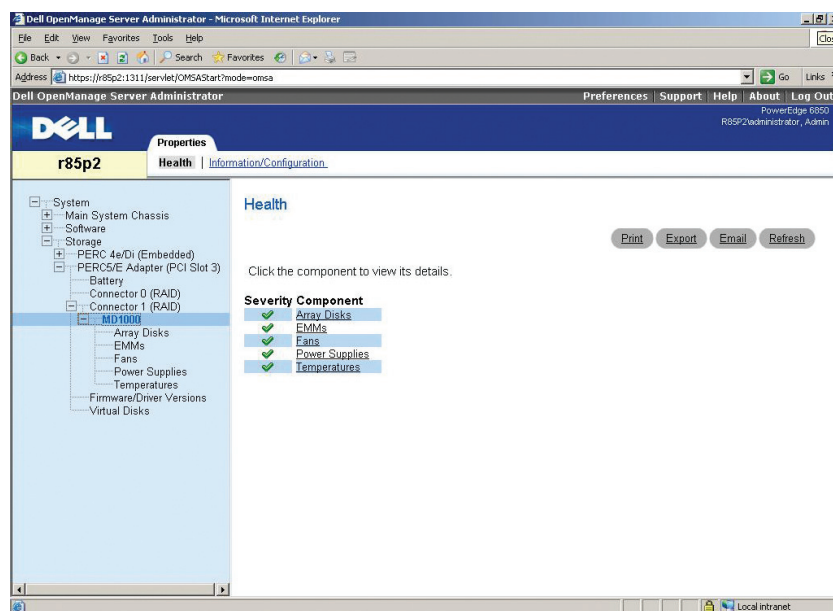

Figure 7. Enclosure health screen in Dell OpenManage Server Administrator
- **Enclosure health:** Status of array disks, management modules, fans, power supplies, and temperature (see Figure 7)